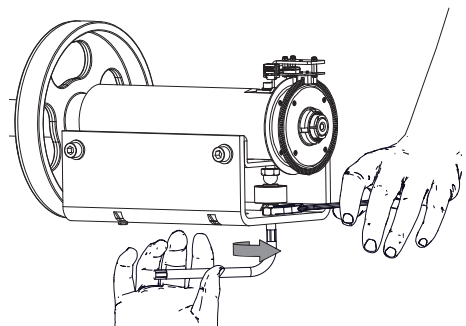

Fig. 14:
11. Keep the Allen key and fix the locking nut (fig.14);